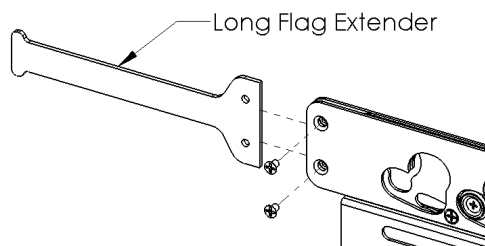

Figure 2
1. For 42" screens the short flag extender that comes attached to the mount can be removed and replaced with longer flag extender that is included (See figure 2). The longer flag extender may also be used with 37" screens.